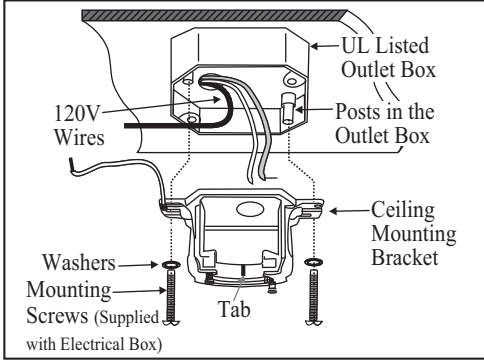

Figure 7
1. Pass the 120-volt supply wires through the center hole in the ceiling mounting bracket as shown in Figure 7.
2. Install the ceiling mounting bracket to the outlet box; be sure to align the holes in the hanger bracket with the post holes in the outlet box and secure with screws and washers provided by the outlet box. (Fig. 7)